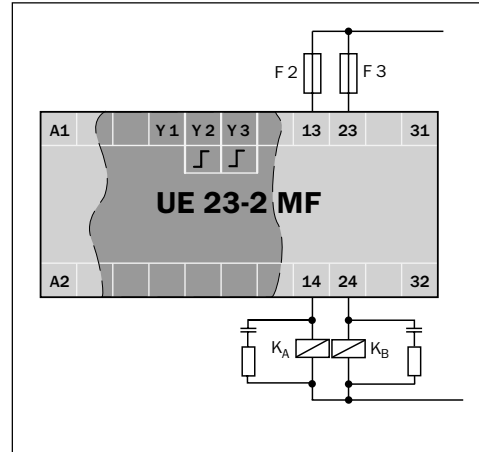

Fig. 2: Basic wiring: Voltage supply, dual-channel output circuit (refer to Technical Data)
- To prevent the contacts of the final switching relays welding, an overcurrent protection device (short-circuit protection (Operating Class gG)) should be selected according to the appropriate utilisation category and incorporated into the output paths (see *Technical Data*), Fig. 2, fuse F 2 / F 3. The fuse specification must be of a quick blow type.